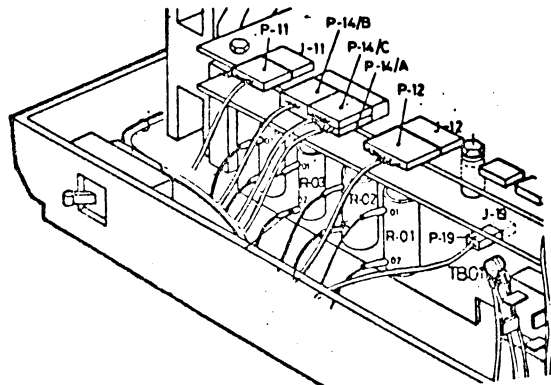

Fig. 7-12 Resistances/
- . Disconnect the motor power cable (P 14 B) on the PWA DRIVE (see fig. 7.12)
- . Unsolder all connections present on resistances R.01 - R.02 - R.03 R.04 (see fig. 7.12)
- Connect the power cable P14B on the PWA DRIVE. (see fig. 7-12)